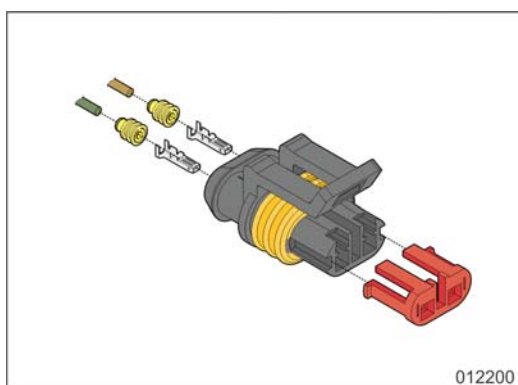

Figure 3
- For the green and brown wires (refer to figure 3):** slide a wire seal 10970038 from the kit over each wire. Strip back the wires, and crimp a terminal 10970074 from the kit onto each wire. Insert the terminal of the brown wire in contact number 2 of the connecting plug, the green wire in contact number 1. After insertion of a terminal, pull back the wire lightly to check if the terminal is securely locked in position. Push the red anti-back out device into the connecting plug. Connect the connecting plug to the relay.